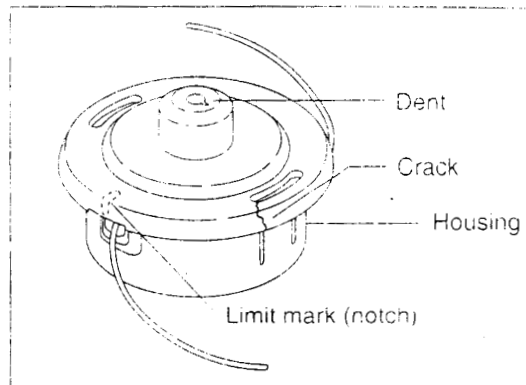

Fig. 40
2. Check the nylon cutting head carefully before each use. If you notice any of following, replace the worn or damaged parts with new ones immediately (Fig. 40):